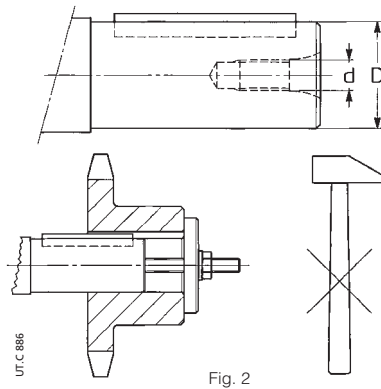

Fig. 2
**Attention!** Installing and removal operations should be carried out with the aid of **jacking screws** and **pullers** using the tapped hole at the shaft butt-end (see table in fig. 2) taking care to avoid impacts and shocks which may **irremediably damage the bearings**, the **circlips** or other parts, for H7/m6 and K7/j6 fits it is advisable that the part to be keyed is preheated to a temperature of  $80 \div 100$  °C.